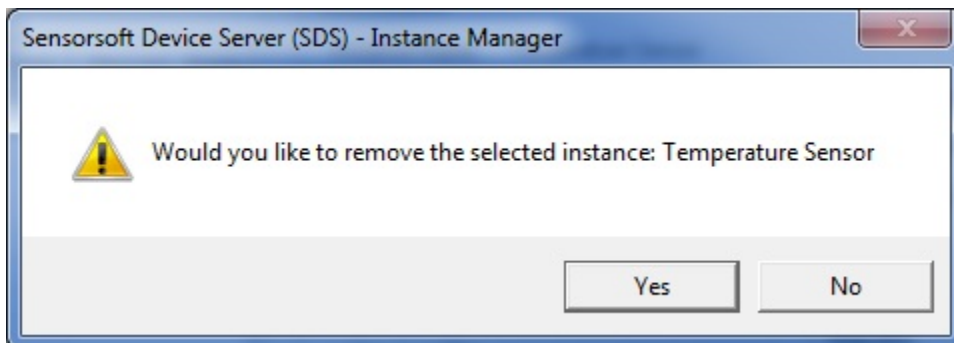

Figure 7
2. Click the ‘Remove Selected Instance’ button. The following message box shown in Figure 7 will appear on the screen. Click on ‘Yes’ button to remove the selected instance.